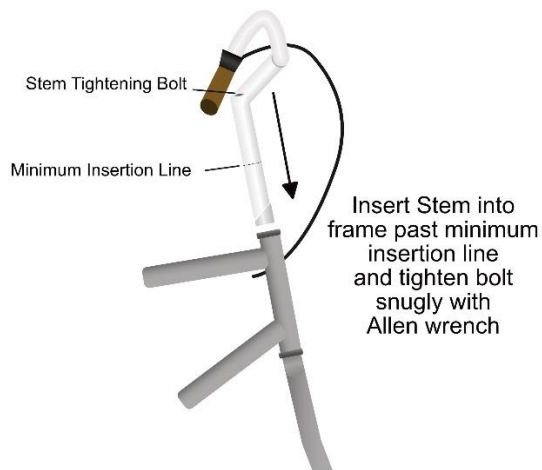

Figure 6 – Attach Handlebars to Frame
- (1) **Insert the Stem into the frame past the minimum insertion line and then tighten the bolt snugly with an Allen wrench** (See Figure 6).
- **Check Alignment** – make sure handlebar stem is parallel to the bike's center line and clamped tight enough so that you can't twist it out of alignment. (See Figure 6 on page 12.)